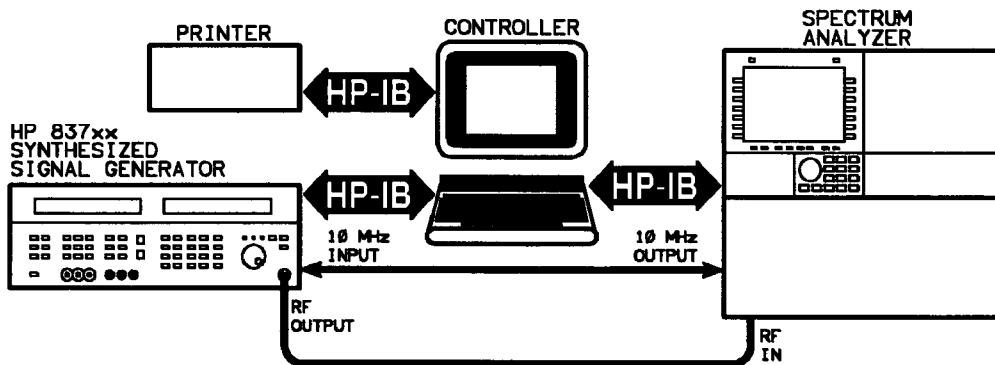

Figure 7-16. Internal AM/FM Source Calibration Equipment Setup
1. Set up the equipment as shown in Figure 7-16.